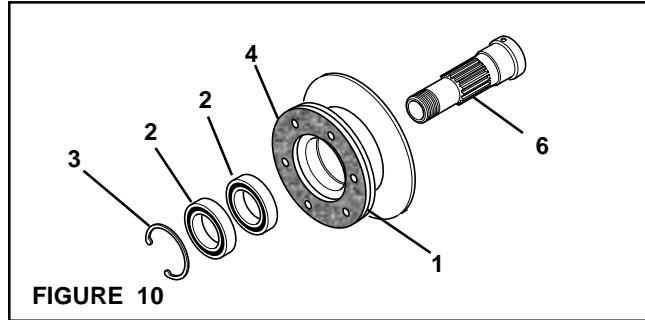

FIGURE 10
17. Press the Hub (Item 6) out of the Ball Bearings (Item 2) and Drive Disc (Item 1) (See Figure 10).
18. Remove the Retaining Ring (Item 3) from the Drive Disc (Item 1) (See Figure 10).
19. Press the Ball Bearings (Item 2) out of the Drive Disc (Item 1) (See Figure 10).
22. Install the Retaining Ring (Item 3) (See Figure 10).
23. Fully support the inner races of the new Ball Bearings (Item 2) and press the Hub (Item 6) into the new Ball Bearings (See Figure 10).